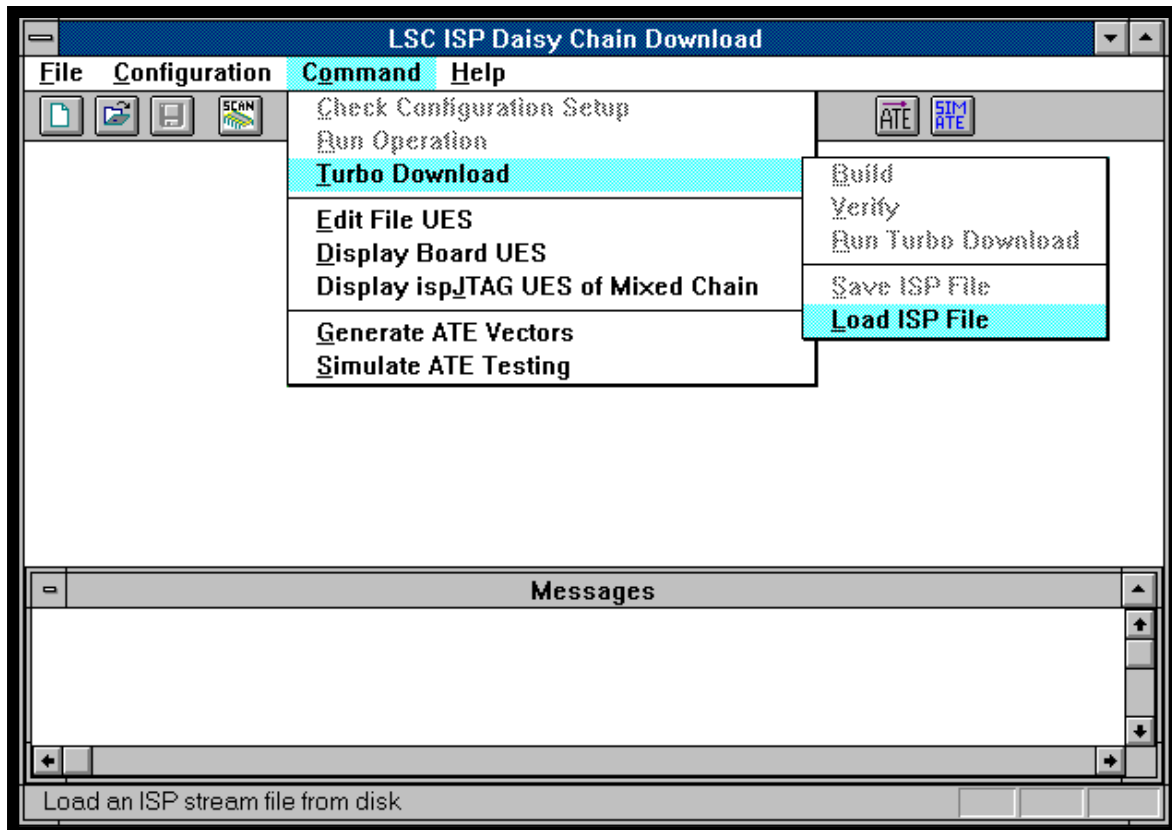
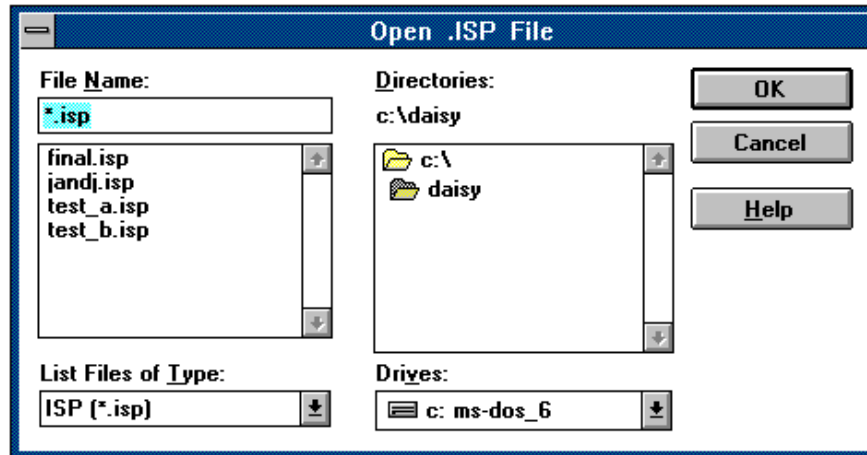

Figure 3-16. **Command** ⇒ **Turbo Download** ⇒ **Load ISP File** Menu Item
Figure 3-17. Open .ISP File Dialog Box
1. Select **Command** ⇒ **Turbo Download** ⇒ **Load ISP File** or the **Turbo Load** icon from the ISP Daisy Chain Download menu (Figure 3-16). The Open .ISP File dialog box appears (Figure 3-17).
2. Type in a .isp file name in the **Source File** field or click **Browse**. The Open .ISP File dialog box appears (Figure 3-17). Once you select a file, the path appears in the **Source File** field. Type **ate2.isp**